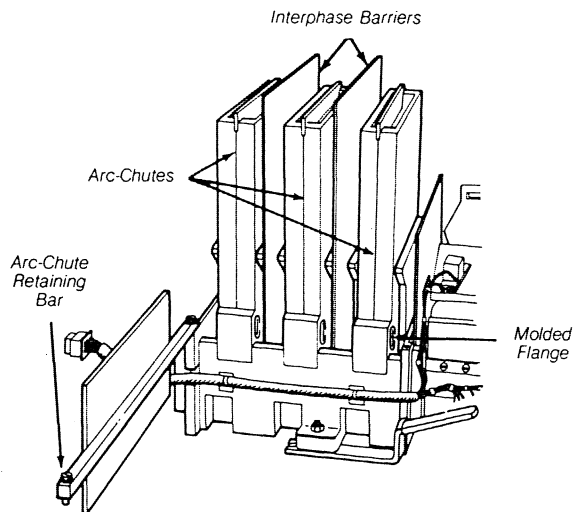

Figure 10 — Arc-Chute and Interphase Barrier Removal
9. Loosen right hand retaining bar screw completely. (see Fig. 10).